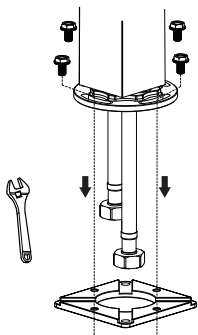

Figure 11
8. Connect the tub filler body and the floor flange together using the screws provided as shown in Figure 11.